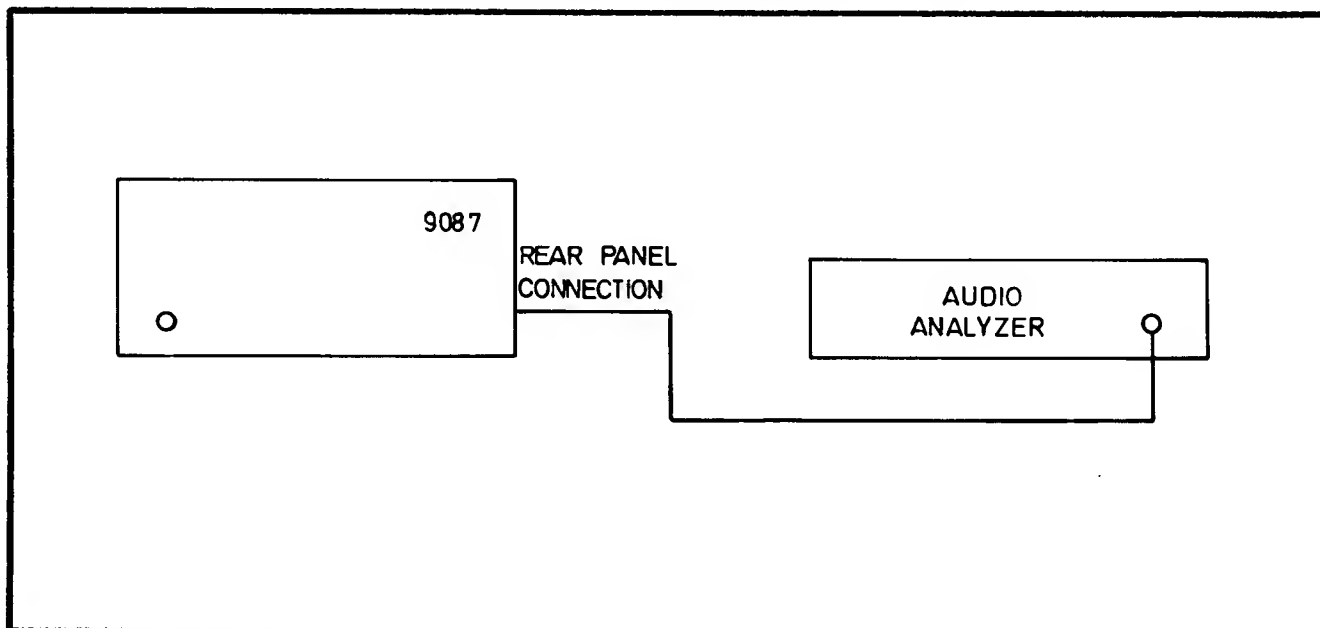

Fig. 7.22. Connections for Audio Output Level and Distortion PVP
7.9.2.4.4 Connect the test equipment as shown in Fig. 7.22.